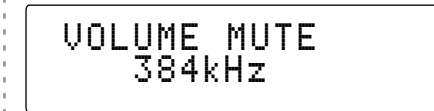

Figure 54
dicating “VOLUME MUTE”. Refer to figure 54. Pressing the MUTE Push-button a second time or adjust the Volume Level to un-mute the di122.
1. Press and release the Push-button on the Remote Control to decrease the volume level of the Right Channel in one decibel increments (up to -30dB) “BALANCE, L:0dB R:-30dB” appears on the Front Panel Display. Refer to figures 54, 55 and 58.